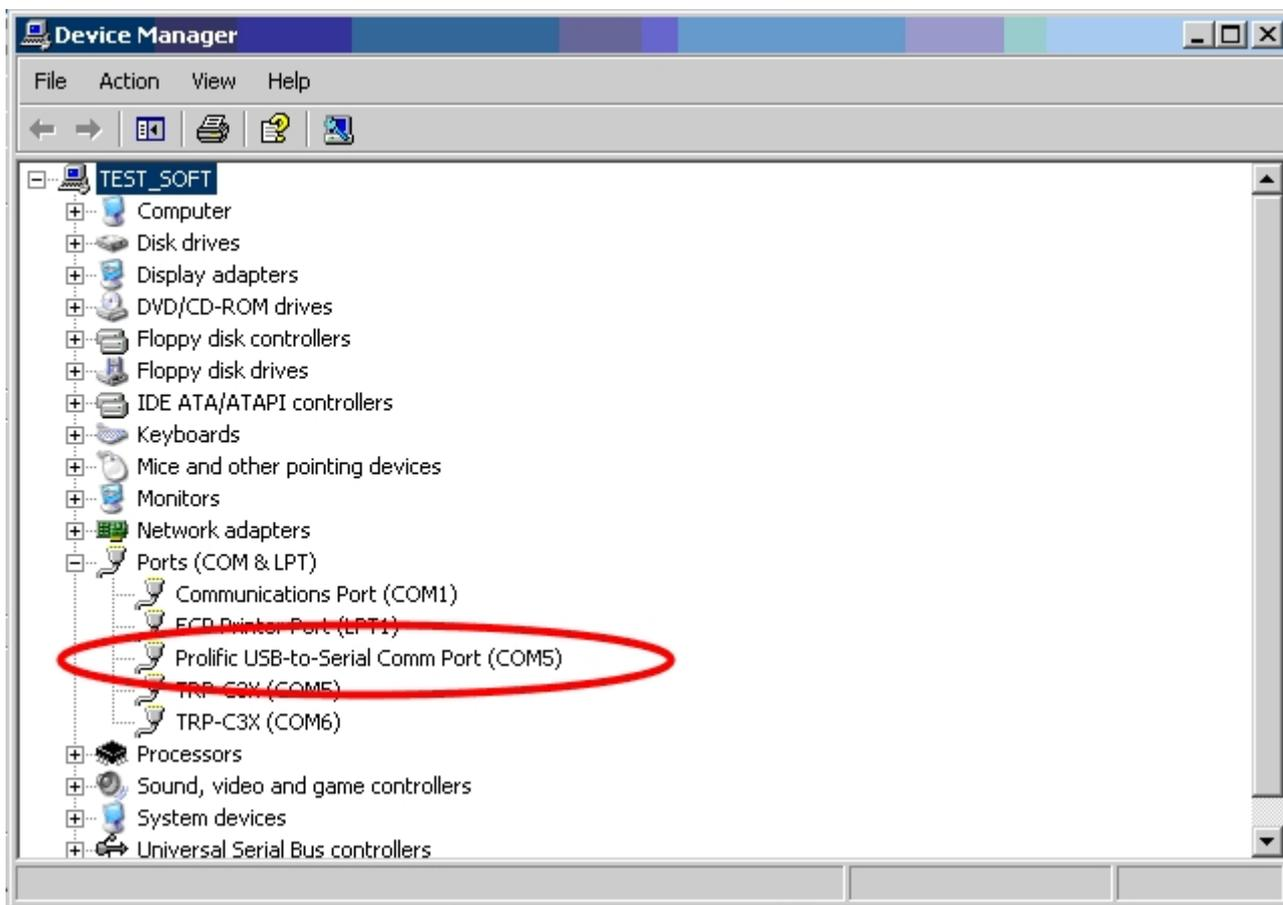

Fig.4
Step6.After installation user may verify if TRP-C08 was properly installed by Click Start – Setting -- Control panel -- double click system icon – Hardware Device Manager -- Double click on ports (COM&LPT) .(See Figure 4)